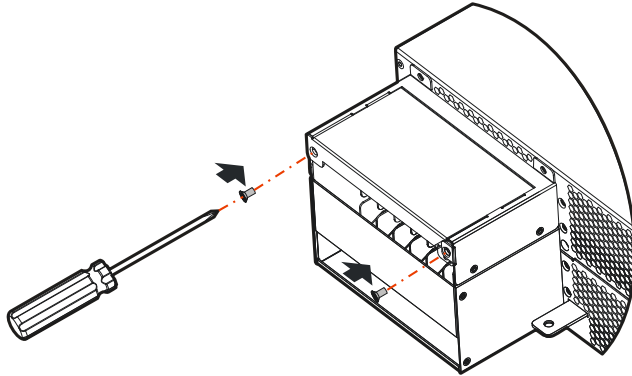

Figure3-28 Fix with the flat head screws
Step 5 Fix with the flat head screws, as shown in Figure3-28.